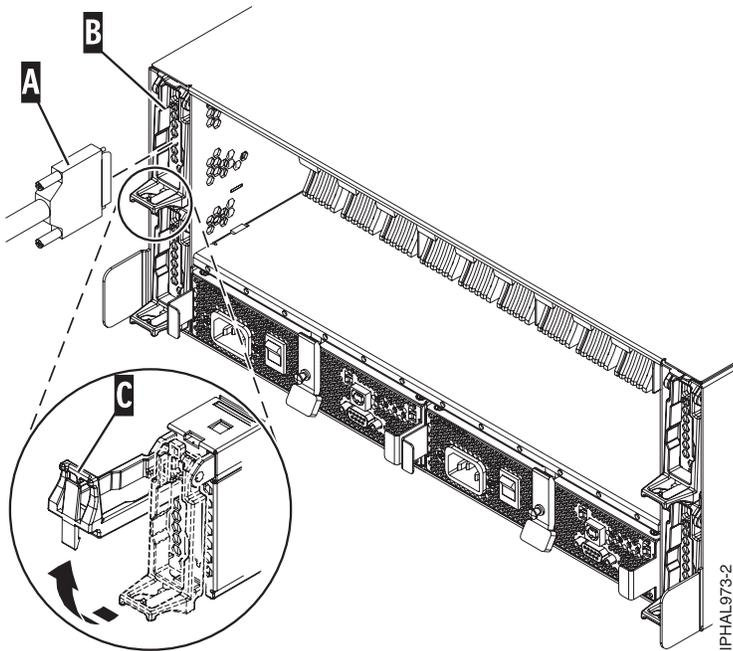

Figure 68. SCSI cable to single repeater card
- If you are using only single repeater cards or only dual repeater cards, install your SCSI cable **A** to the initiator repeater card **B**. For more details, see Figure 68, Figure 69, Figure 70 on page 69, depending upon your situation.